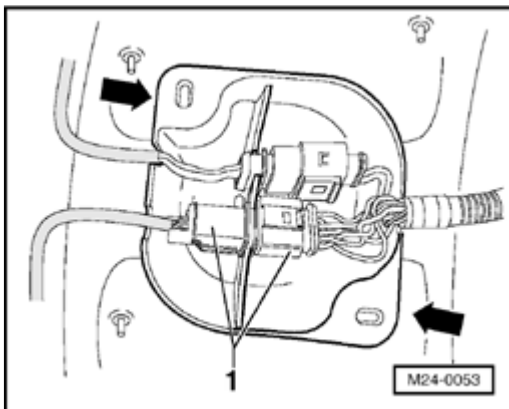

Fig. 365: Connectors, Installed Location
- Removing and installing with 3337, separate connector. See **Fig. 365**.